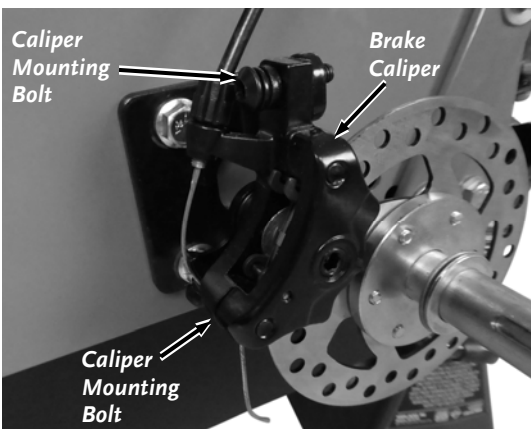

Figure 48
1. Using the 5.5mm Allen Wrench, loosen the Caliper Mounting Bolts one turn (**Figure 48**).